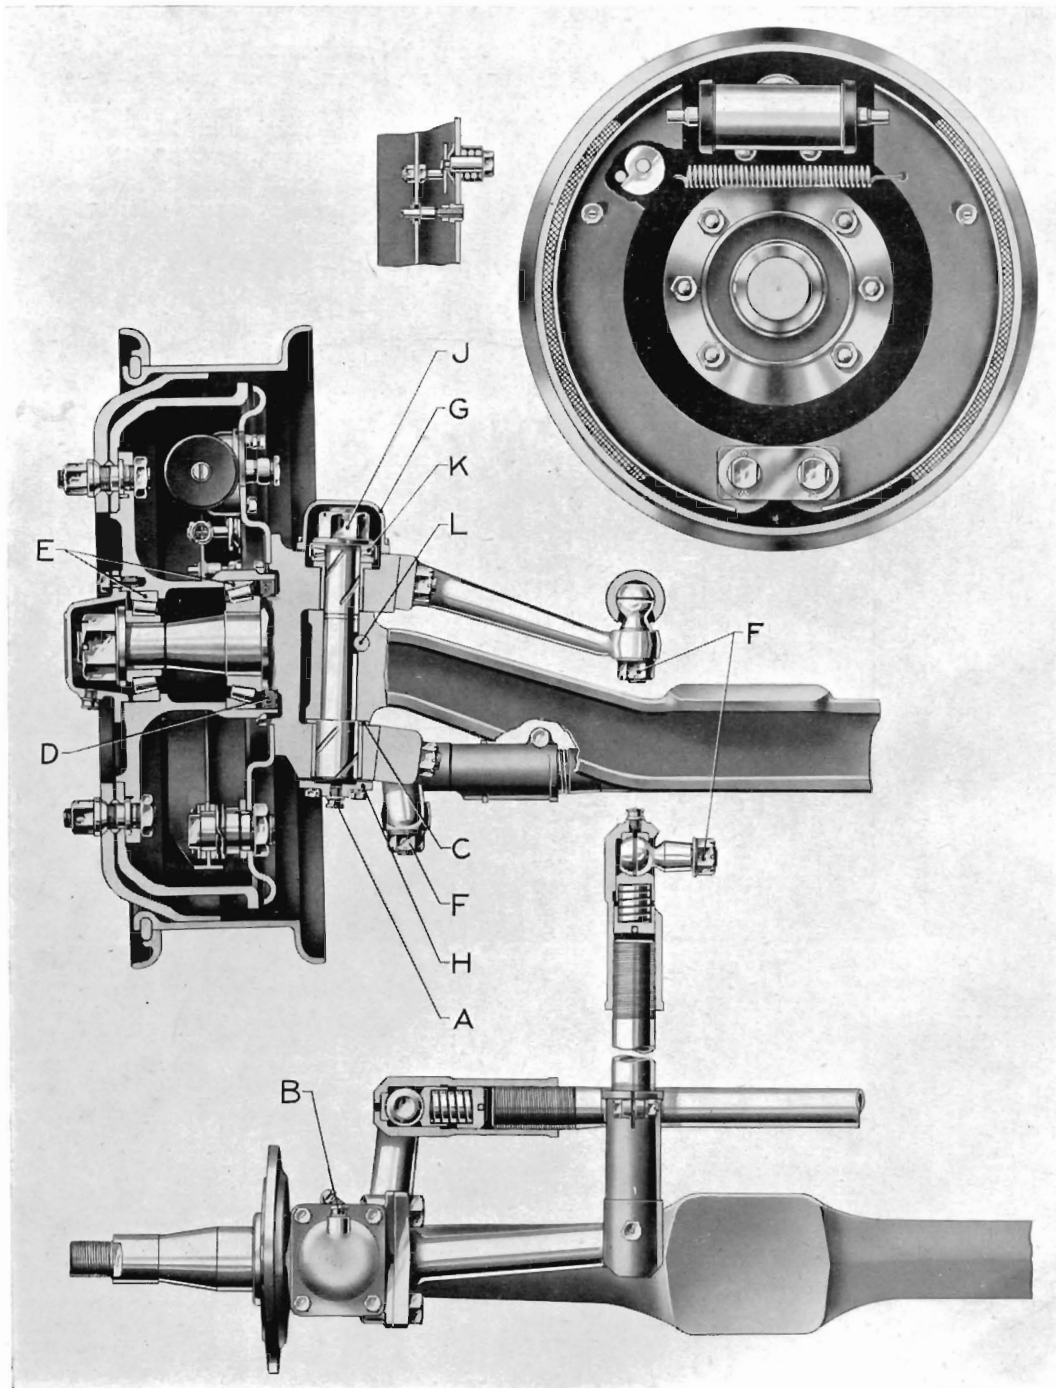

Fig. 2.
The hubs are carried on taper roller bearings (E), Fig. 2, and these should be kept adjusted so that there is not more than .005 in. end play.
Disconnect the steering connections by slackening off the nuts (F), Fig. 2, a few turns and drawing the pins through the steering arms. A drawer is available for this purpose, a hammer should not be used as there is danger of distorting the steering arms. Uncouple the flexible brake pipes, the back plates and brake shoes need not be removed.